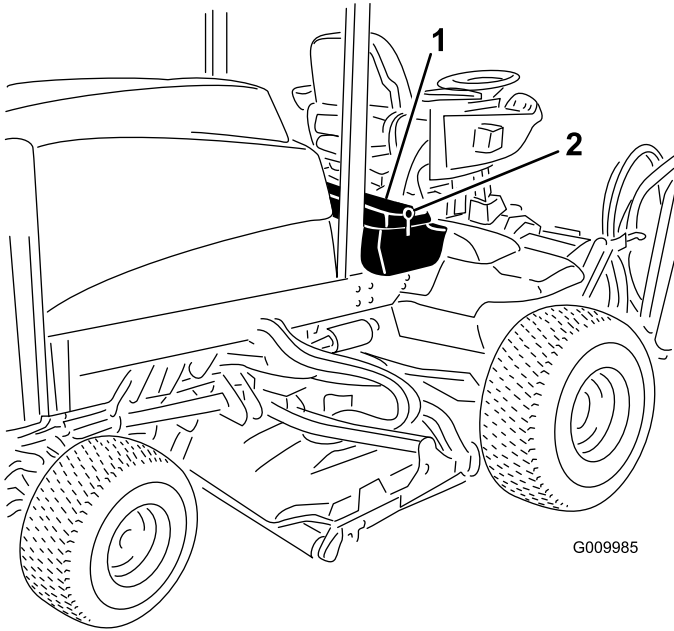

Figure 74
1. Unlatch and raise the operator's console panel (Figure 74).